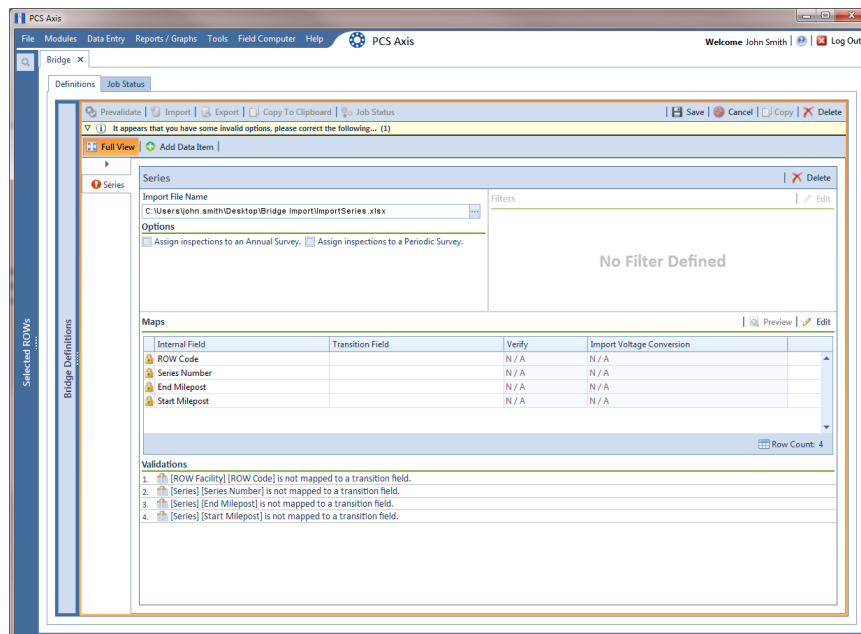

Figure 10-66. Definition
- 8 Identify the location of the import transition file using the following steps (Figure 10-66, page 553):